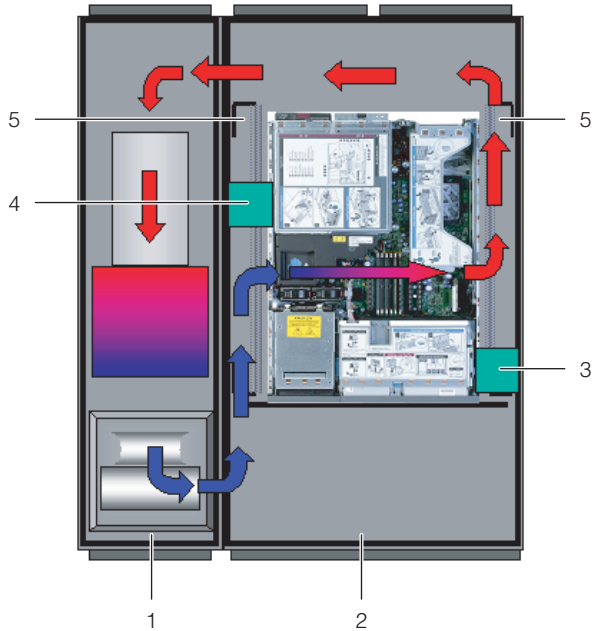

Fig. 15: Placement of foam strips for devices with sideways air throughput (top view) – LCP Rack DX
- If several devices which require sideways air throughput are included, cut out several pieces of the foam strip, as is appropriate, so that, ultimately, there is a cut-out in the foam to the left or right at the height of each such device in the server rack. Ensure that there are no gaps on the hot air side of the devices (fig. 15, item 3).
- Attach the foam strips to the cold air side of the devices set back towards the rear (fig. 15, item 4), making sure that all fans built into the devices can draw air and that none of them are blocked.
The foam strips can be attached between the front and rear supports of the server rack along the entire depth of the devices with sideways air throughput (fig. 15, item 5).